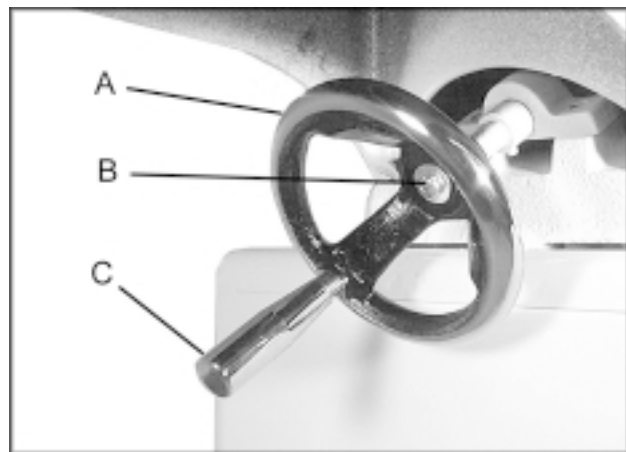

Fig. 3
2. Press handwheel (A, Fig. 3) onto shaft, aligning the key way with the key. If necessary, use a hammer with a block of wood to tap the handwheel completely onto the shaft.
3. Re-install screw and washer (B, Fig. 3).
4. Mount handle (C, Fig. 3) onto handwheel.